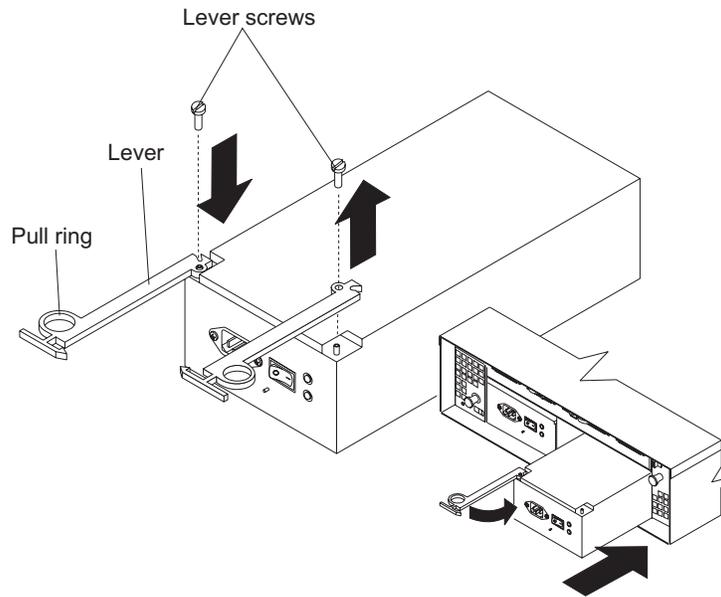

Figure 40. Moving the power supply lever and replacing the failed hot-swap power supply
Note: Before you replace the failed power supply, ensure that the new power supply lever is attached to the side of the power supply that faces the middle of the expansion unit. If it is not, remove the lever screw, flip the lever over, and tighten the screw on the opposite side as shown in Figure 40 on page 65.
- a. Slide the power supply into the expansion unit. Be sure that the lever is pulled straight out as you slide the power supply into the expansion unit (see Figure 40).